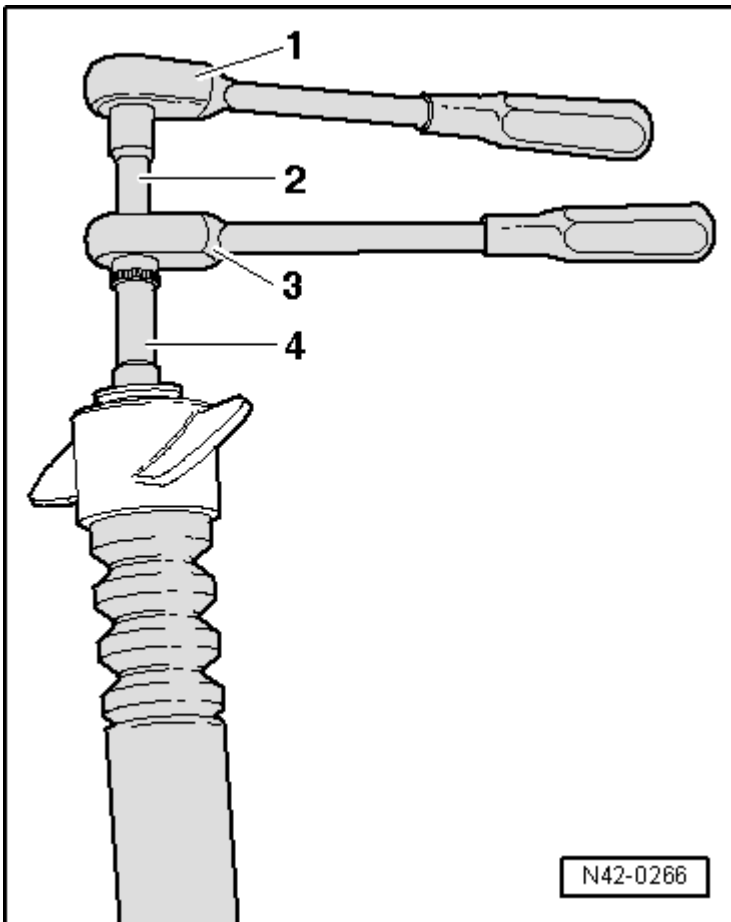

Fig. 297: Identifying Removal Of Hex Nut From Shock Absorber
- Loosening and Tightening, refer to **Fig. 297**